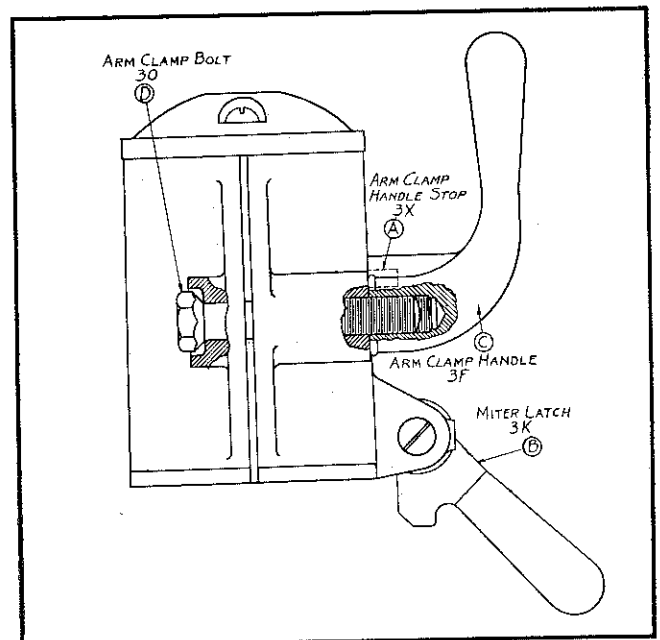

FIGURE 11
The arm clamp handle rigidly holds arm in position for straight or miter cuts. When tightened in position the arm clamp handle should be upright as shown in Figure 11 (C). If this becomes worn so that it goes beyond the vertical position . . . you relocate it. See Figure 11.
1. Remove arm clamp handle stop (A) and lift miter latch (B) upward against side of arm.
2. Unwind arm clamp handle (C) by turning it clockwise (to the right). Make about three or four complete turns of this handle.
3. Push back arm clamp bolt (D) from its hex socket so that the hex head can be turned.
4. Turn the hex clamp screw (D) about one-sixth turn counterclockwise to tighten arm clamp handle.
5. Put hex screw head (D) back in hex socket . . . retighten arm clamp handle (C) in upright position . . . and insert arm clamp handle stop (A).